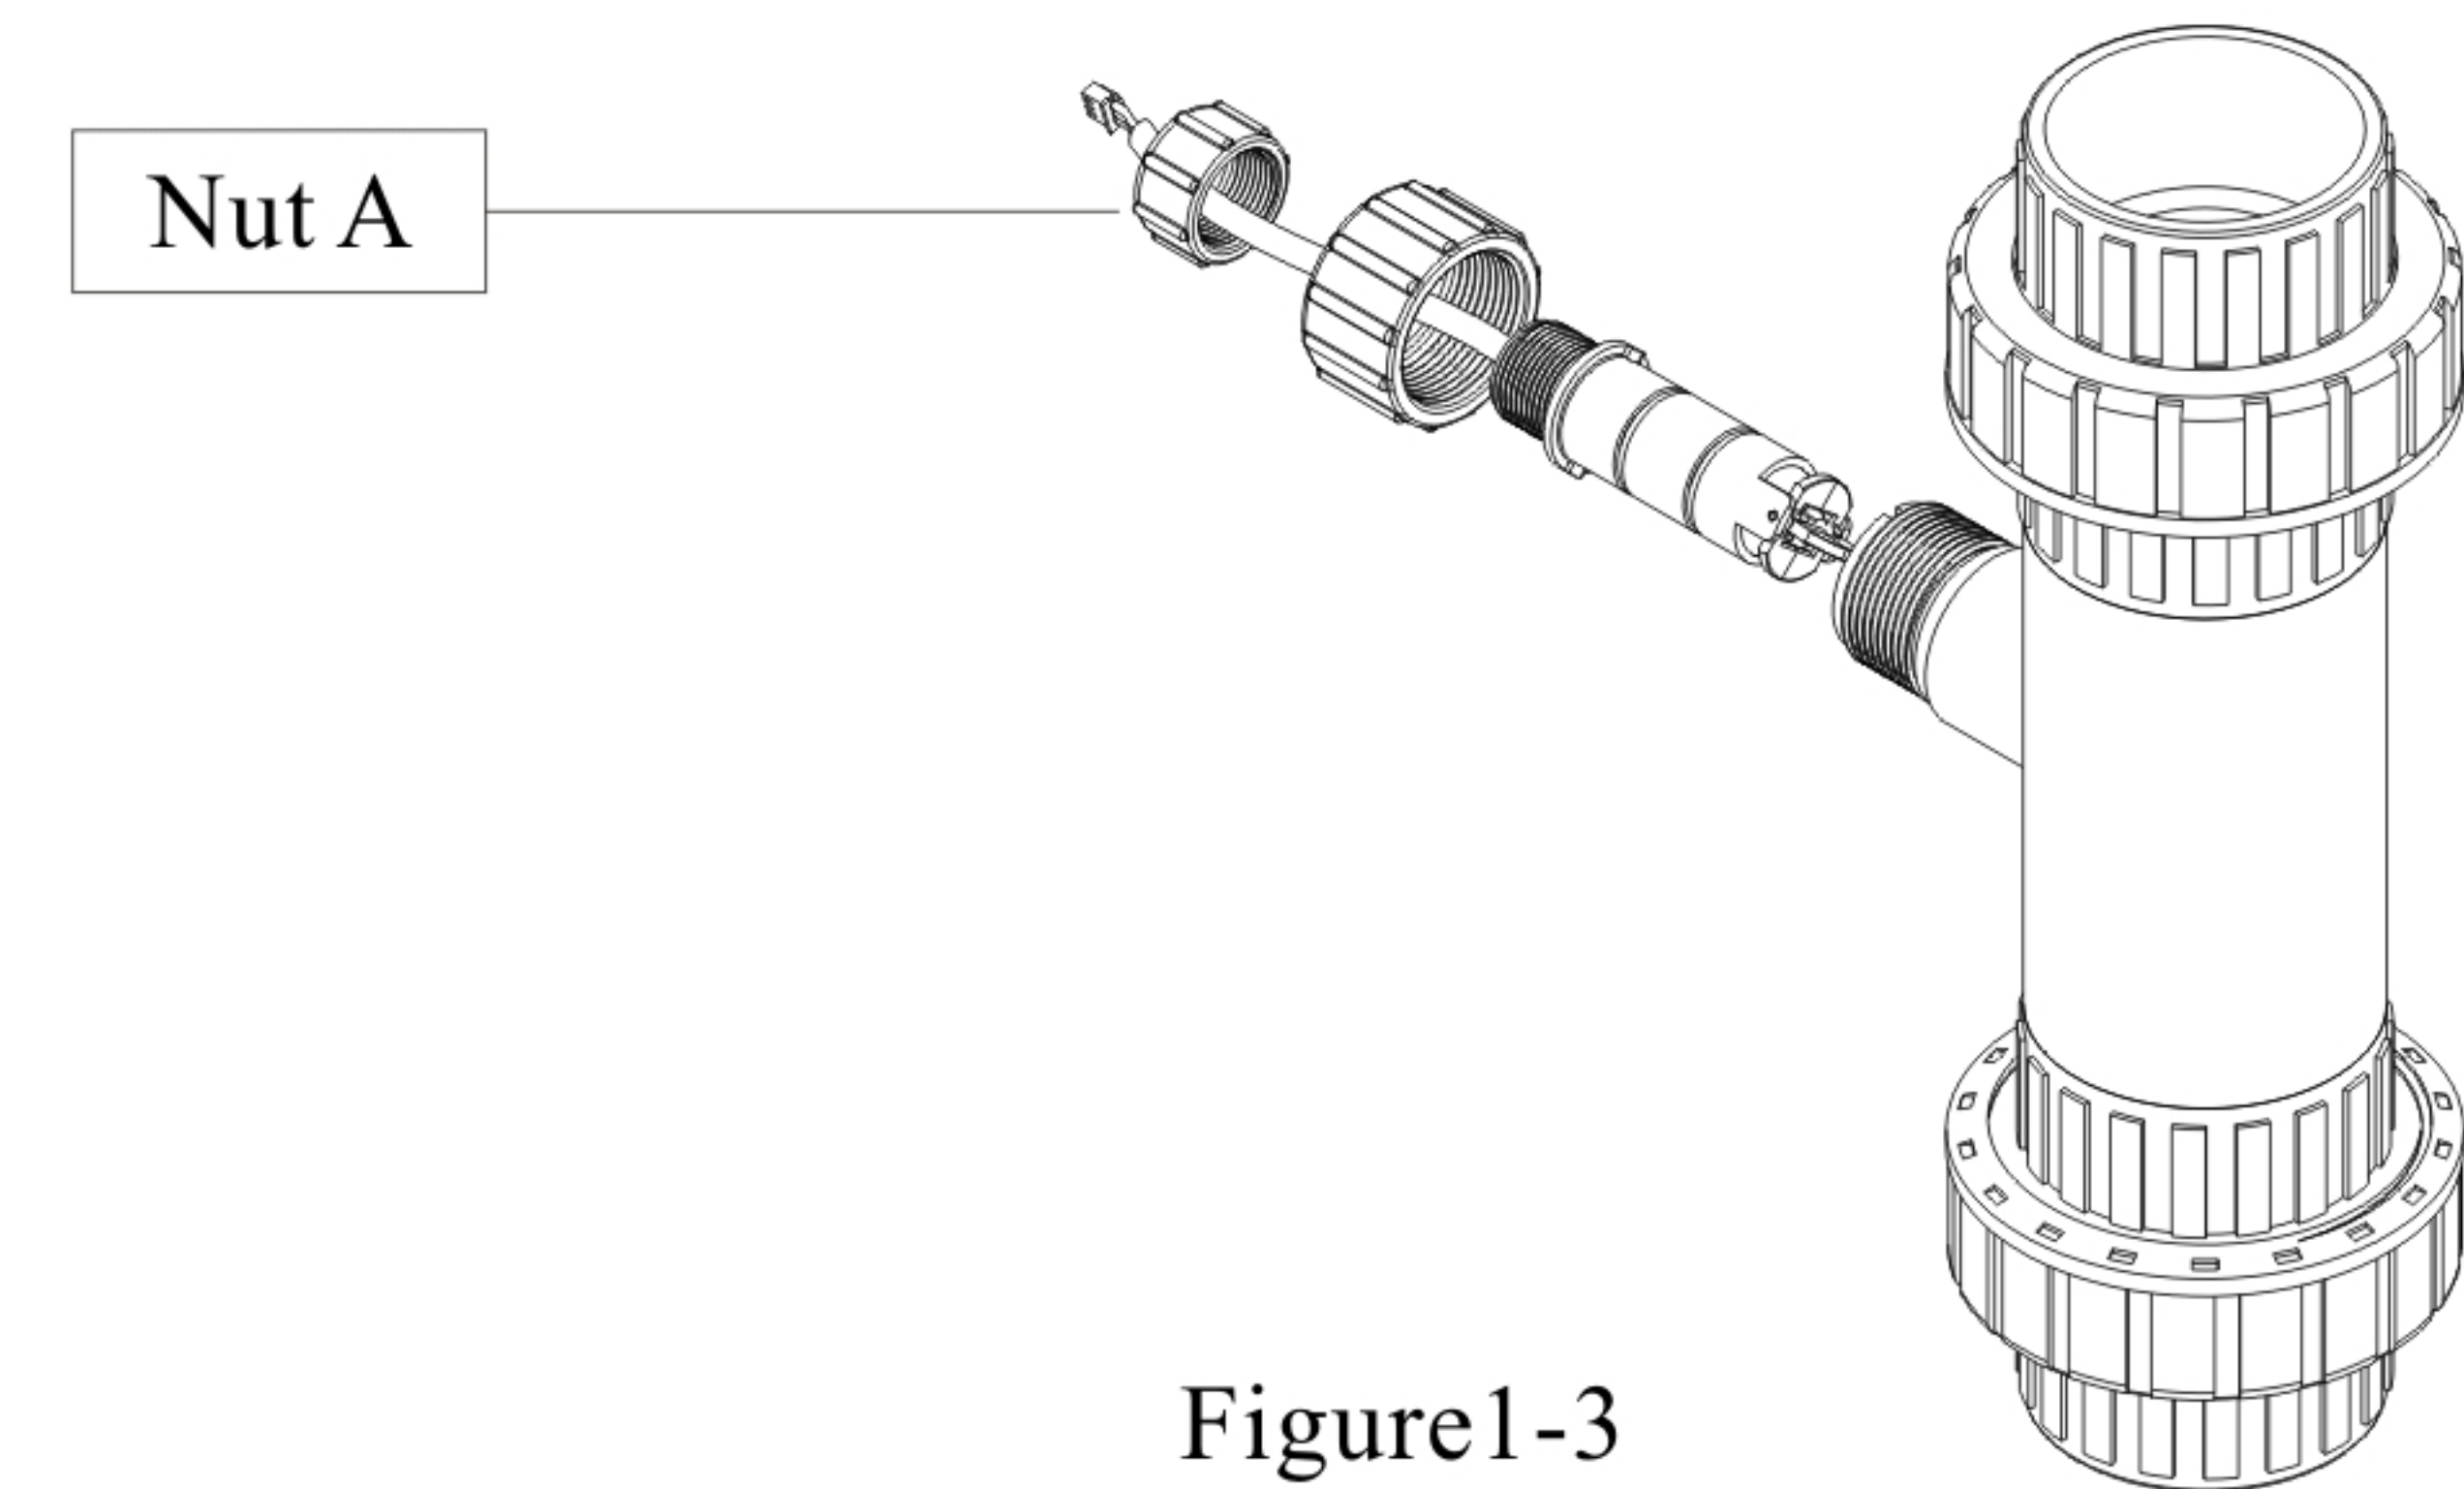

Figure1-3
B. When the flow meter stops measuring but the tested liquid is still flowing, the working mode of probe can be checked online. Screw the probe nut A out, and check the working condition of the diode on the back of probe. If the diode always lights on or off, it indicates the impeller in pipeline stop rotating. It shall stop pipeline working, release pressure in pipeline, and disassemble the probe to check if there is any foreign matter impact impeller rotating. After cleaning, if it can rotate normally by manually, and the diode works normally, it can continue to use after confirming the installation correct. (See as Figure 1-3)